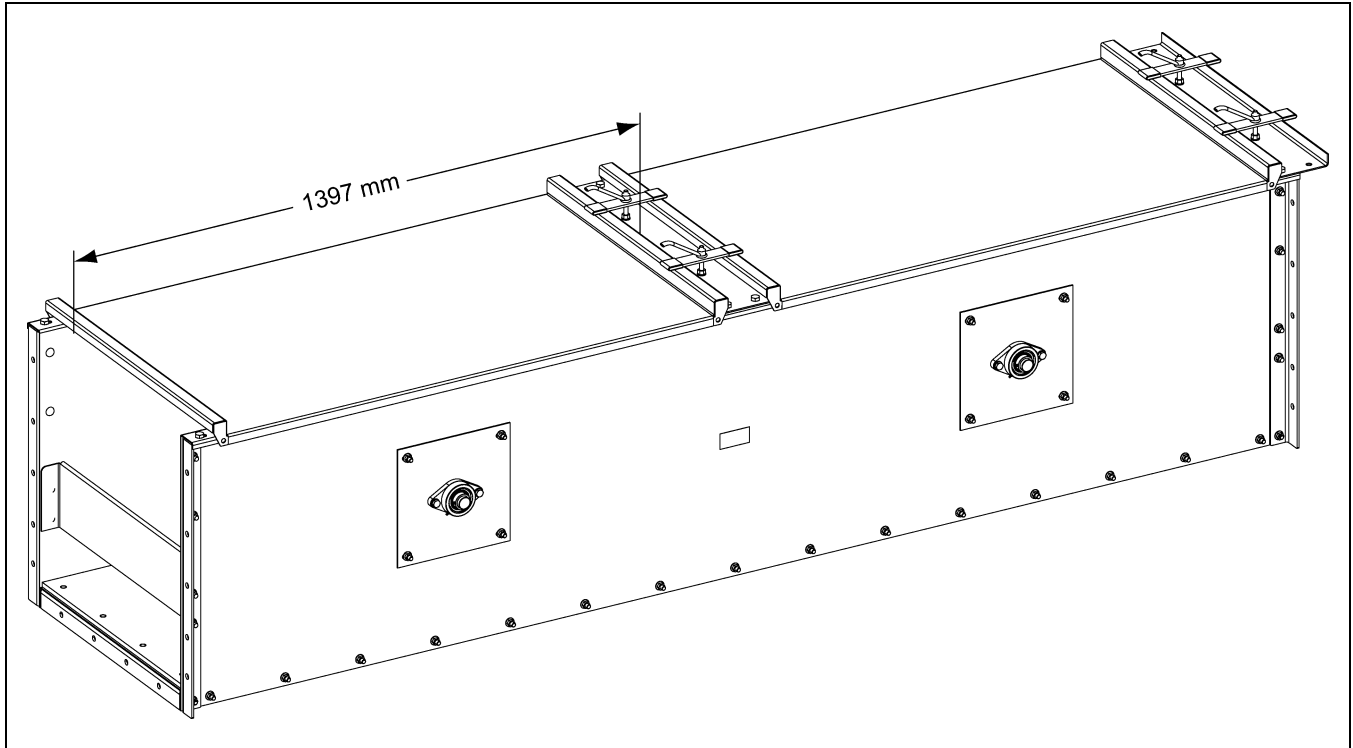

Figure 4H Standard Cover Length
3. Conveyor covers are made to fit over the entire width and half the length of a conveyor intermediate section. Standard covers measure approximately 1397 mm in length. When a loader is ordered, the cover may be measured and cut to take up the displacement of the loader housing. This depends on the position of the loader. (See Figure 4H.)